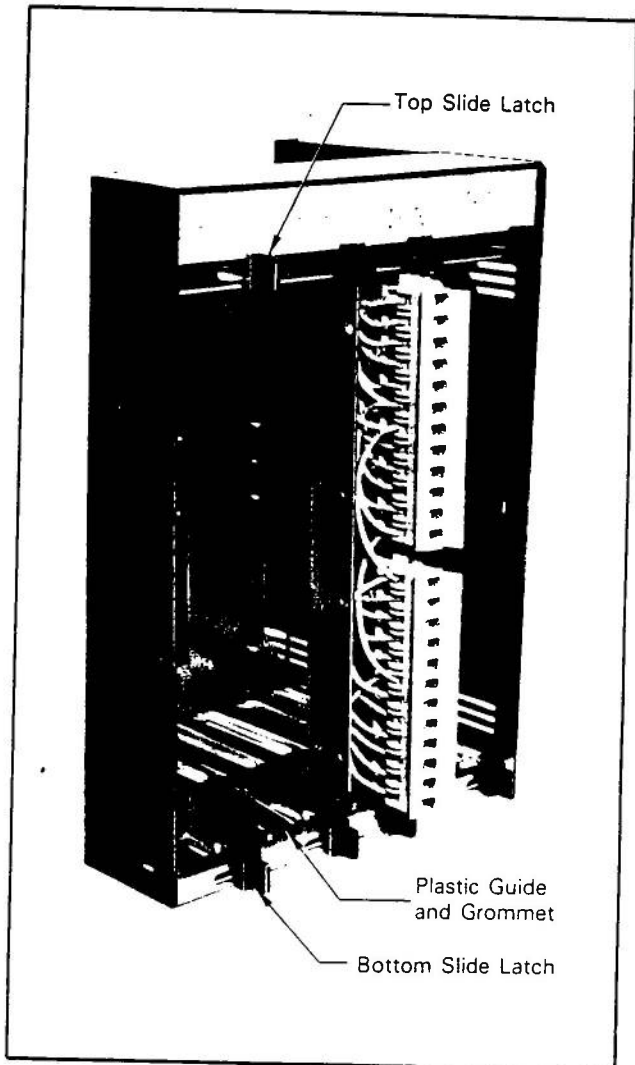

Figure 9 — Horizontal I/O Rack with Terminal Raceway in Extended Position
Step 2 - Pull the Terminal Raceway for the appropriate I/O Rack module slot forward until it stops; lock the Raceway in the extended position (Figure 9) using the top and bottom slide latches.